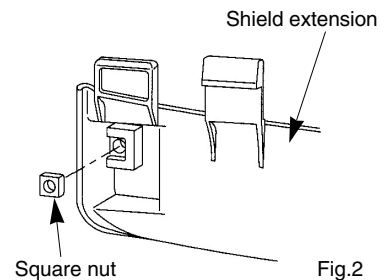
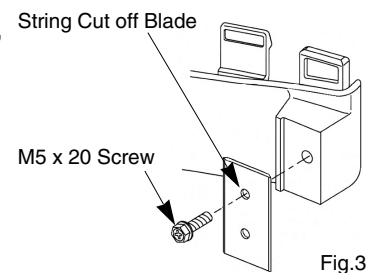

Fig.2
Fig.3
1. Insert the square nut into shield extension as shown on Fig. 2.
2. Attach the String Cutoff Blade to shield extension using M5 x 20 Screw, locking with square nut (on Fig.2) as shown on Fig. 3 .